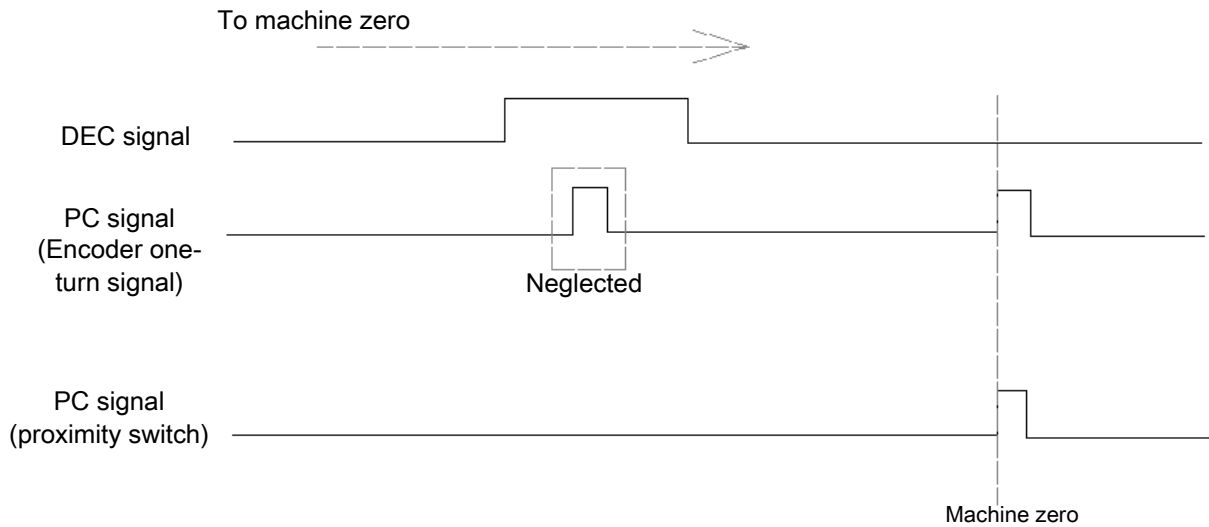

Fig. 2-8 PC signal wave
a) The wave of PC signal by user is shown in Fig. 2-8: